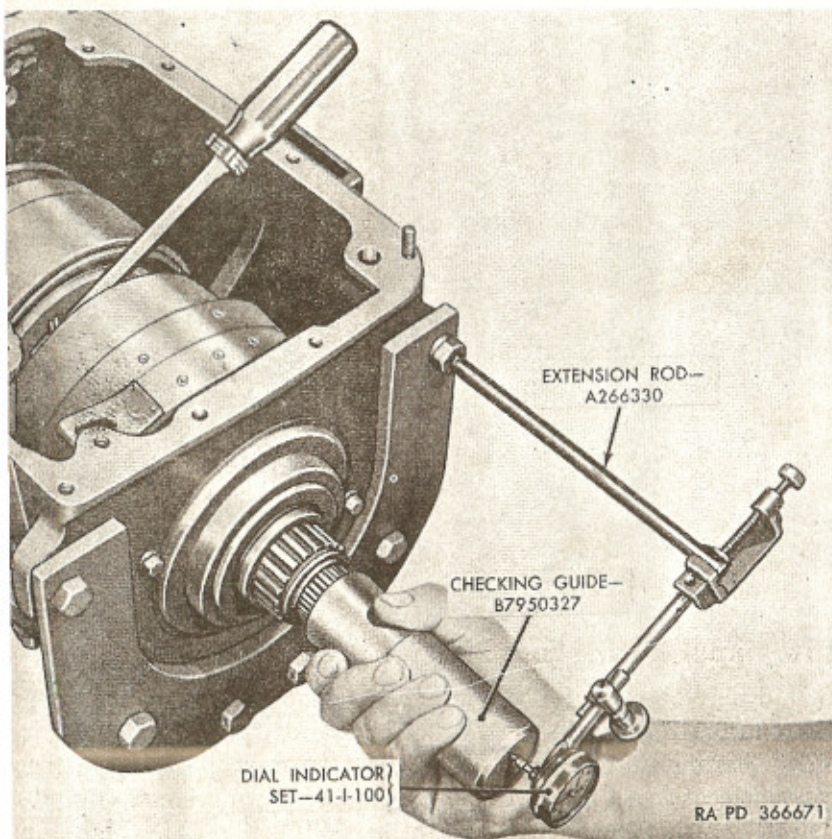

Figure 190. Checking input shaft end play before final assembly of transmission.
- a. Screw checking guide—B7950327 on input shaft. Install dial indicator—41-I-100, using extension rod—A266330 (fig. 190). Wedge a large screwdriver between front clutch drum and center bearing cap to hold front unit forward. The screwdriver should be placed at an angle to prevent damage to oil delivery sleeve.
b. Move input shaft fore and aft while holding shaft checking guide (fig. 190). End play should be 0.004 to 0.018 inch. Be sure to get free input shaft end play. Forcing shaft will not give an accurate reading.
b. Screw checking guide—B7950327 on input shaft. Install dial indicator—41-I-100, using extension rod—A266330 (fig. 190). Wedge a large screwdriver between front clutch drum and
c. Move input shaft fore and aft while holding shaft checking guide (fig. 190). End play should be 0.004 to 0.018 inch. Be sure to get free input shaft end play. Forcing shaft will not give an accurate reading.